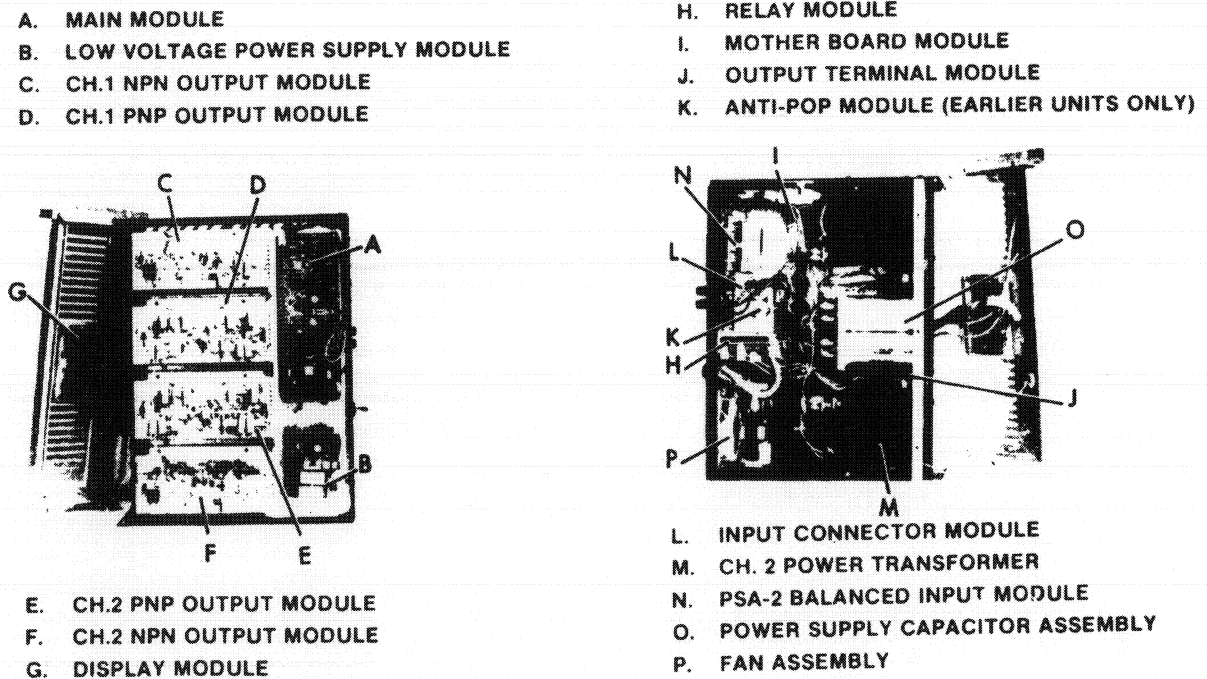
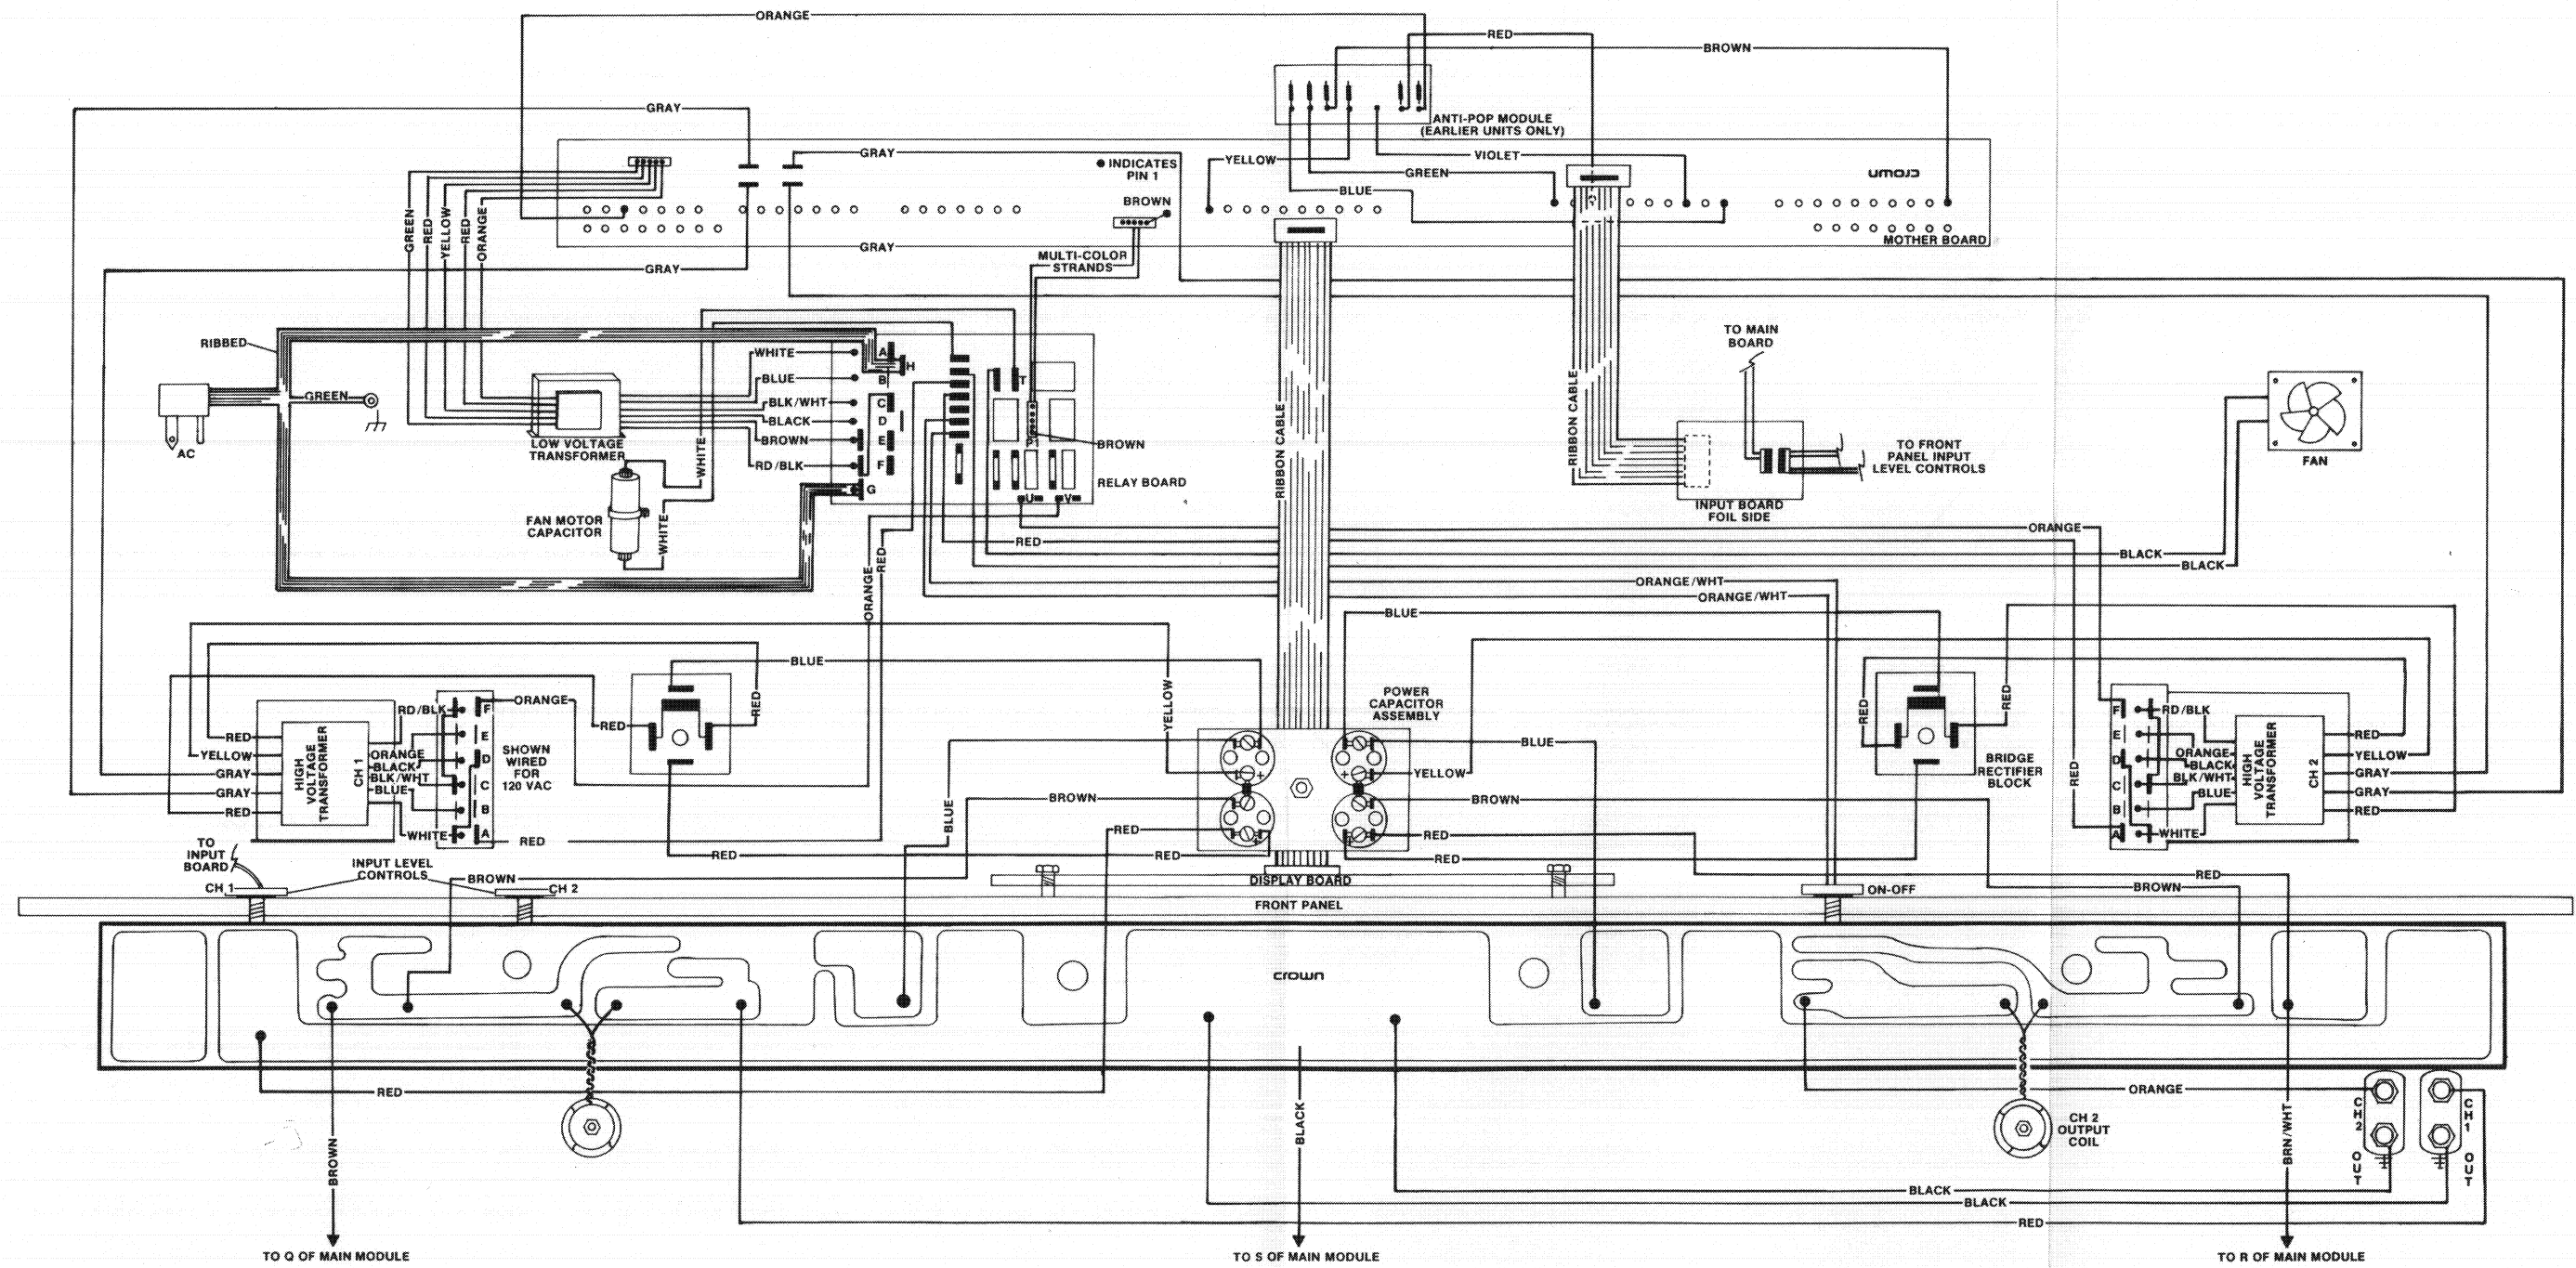

Fig. 7.18 Component Location Diagram
Fig. 7.19 Internal Hard Wiring Diagram
1. Remove the bottom cover (101) as described in Section A. Locate the Relay Board Module (See Fig. 7.18).
2. Remove the three pozidrive head screw(s) that mount the board support bracket. These screws are easily accessible from the outside of the rear panel (89).
4. All connections to this board (except T3 primary) are made through removable clips/plugs. If their removal is necessary, note their location for future reconnection. (See Fig. 7.19).
2. Disconnect each of the two-five pin cable connectors. Note their location and pin read-outs for future reconnection (See Fig. 7.19).
3. Remove the six pozidrive head switch mounting screws (89) as well as the phone jack nuts (74). For complete removal, it will be necessary to disconnect the multi-cable plug located at the Mother Board Module.
2. Disconnect each of the two-five pin cable connectors. Note their location and pin read-outs for future reconnection (also see Fig. 7.19).
3. Remove the six pozidrive head, switch mounting screws (89) as well as the two 3/16" input jack screws. For complete removal, it will be necessary to disconnect the multi-cable plug located at the Mother Board Module.
1. Remove the bottom cover (101) and front panel as described earlier (See Section A and L).
3. Disconnect all other wires that would inhibit transformer removal. Note their location for future reconnection (See Fig. 7.19).
Fig. 7.19 shows all amplifier wiring connections including color code, should it become necessary for wire replacement.